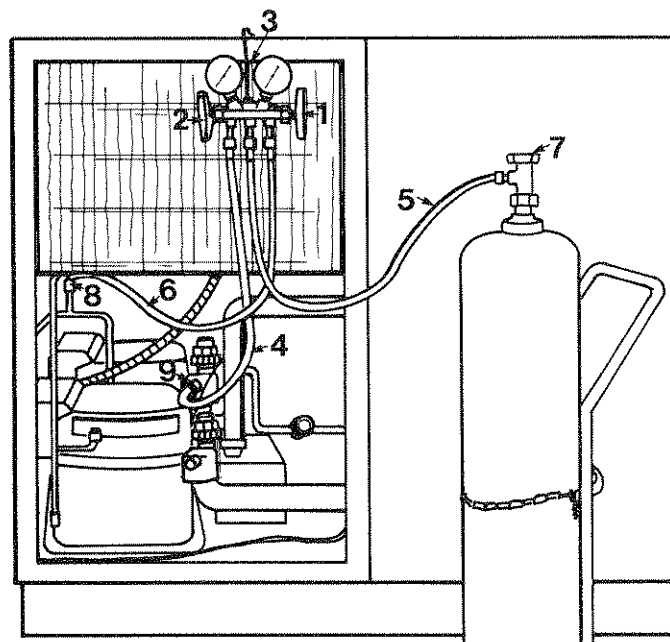

FIGURE D7
2. Turn the two valves (1 and 2) on the refrigeration gauge manifold (3) clockwise to close the valves. See Figure D7.
3. Connect the three charging hoses (4, 5, and 6) to the refrigeration gauge manifold as shown in Figure D7.
4. Make sure the outlet valve (7) on the tank of refrigerant 13 is in the **OFF** position.
5. Connect the center charging hose (5) to the outlet valve on the tank of refrigerant 13.
6. Connect the discharge gauge hose (6) to the discharge valve (8) on the compressor for the R-13 refrigeration system.
7. Turn the suction service valve (9) on the compressor all the way counterclockwise (backseated).
8. Connect the suction gauge hose (4) to the suction service valve. Do not tighten the hose connection.